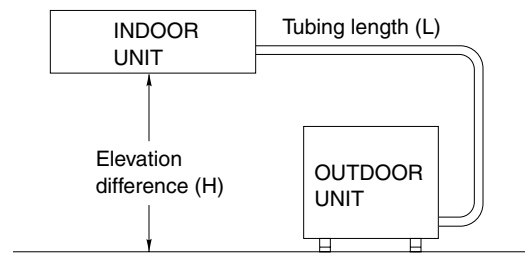

Fig. 2
- install the unit within the maximum elevation difference (H) above or below the outdoor unit and within a total tubing length (L) from the outdoor unit as detailed in Table 1 and Fig. 2.